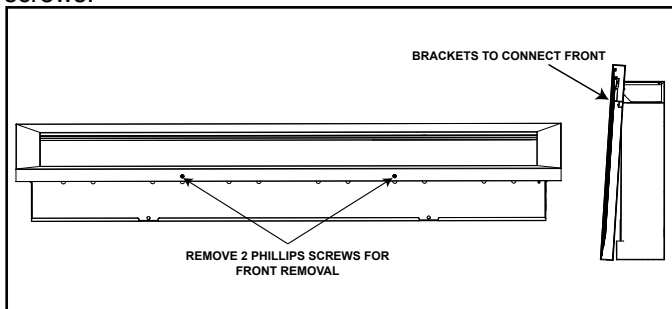

Figure 1 Front Trim Removal
1. Remove Phillips screws from the bottom of the front. See Figure 1.